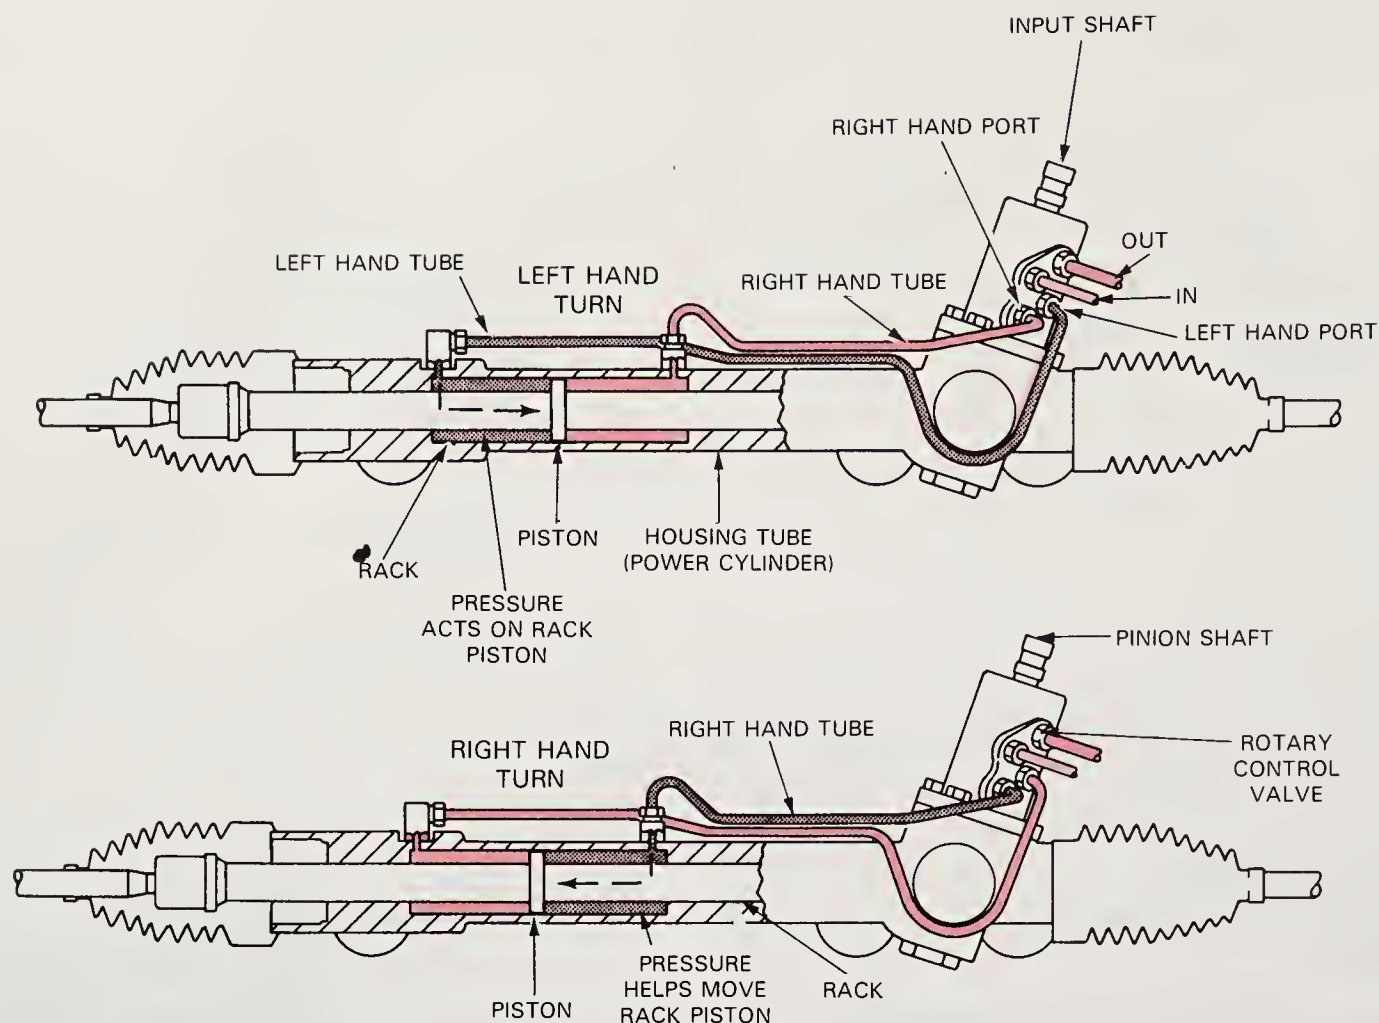

Fig. 66-29. Power cylinder is formed around rack. Pressure acts on rack piston to help slide rack in its housing. (Ford Motor Co.)
1. **POWER CYLINDER** (hydraulic cylinder machined inside rack or gear housing). See Fig. 66-29.
The other parts of the assembly are similar to those found on a manual rack and pinion setup. Note in Fig. 66-29 how routing oil pressure into either end of the power cylinder causes piston operation.